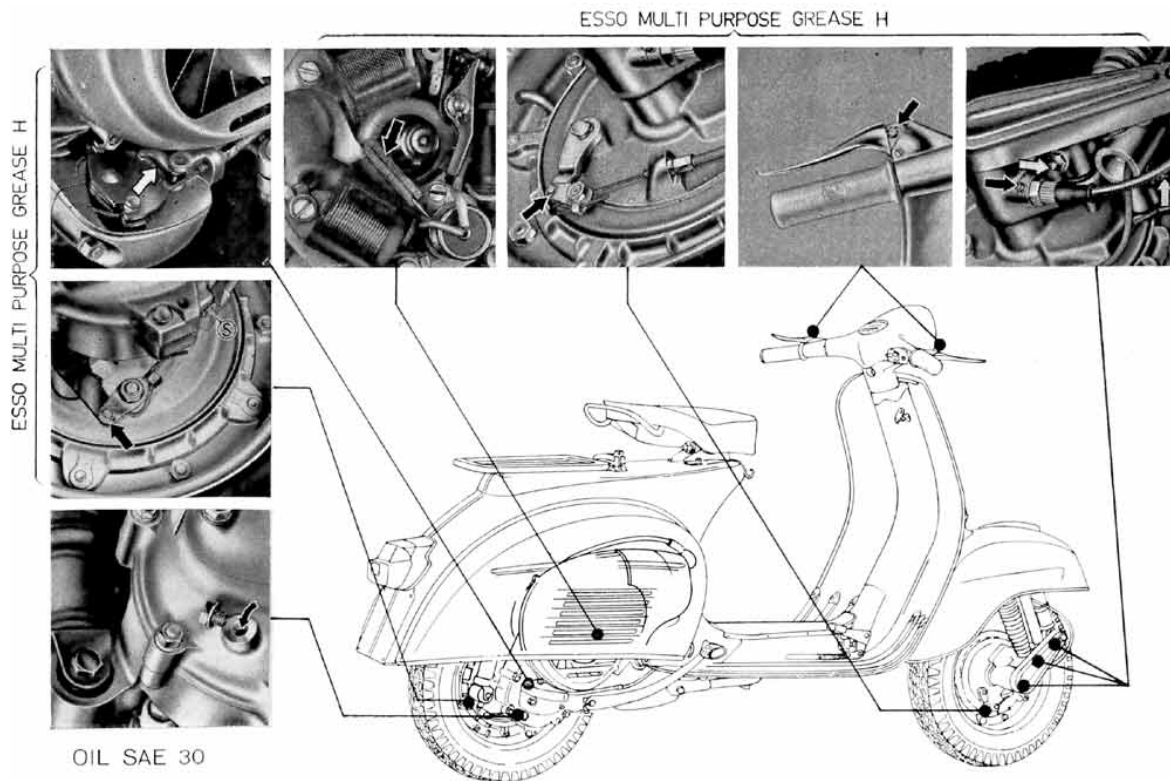

Fig. 18 - Lubricator scheme
Drain off through hole **Fig. 18**, 2nd detail, letter (S).